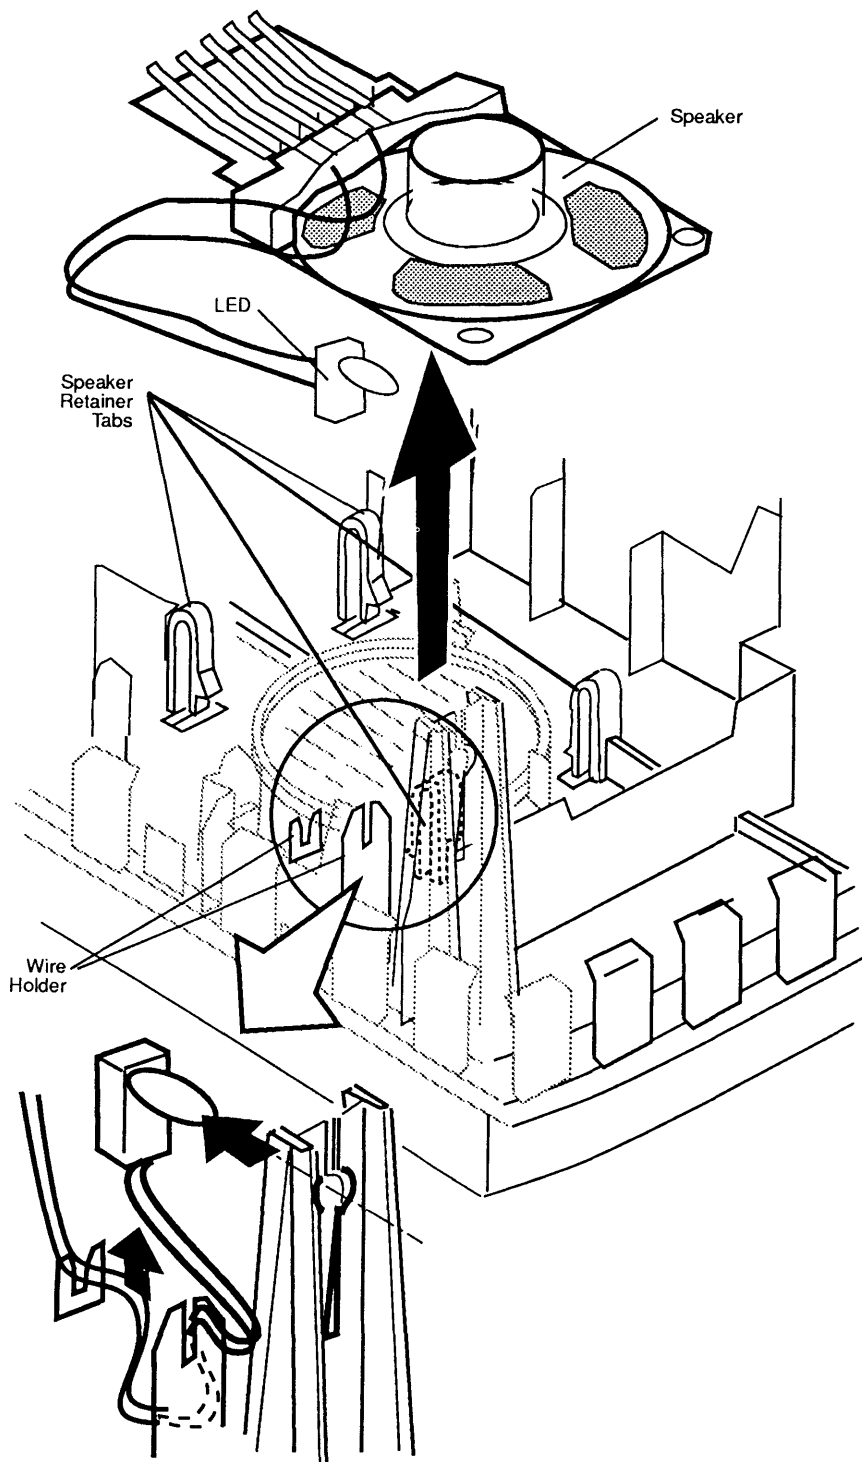

Figure 2-10 Speaker
4. Remove the diode power light on the front of the case by pushing the bulb back and pulling the diode (**Figure 2-10**) from the holder. Carefully remove the diode cables from the two cable holders.
5. Release the four clips that hold the speaker to the bottom case (**Figure 2-10**). Lift the speaker out of the bottom case.
2. Replace the diode power light in its holder, and place the diode cables in the two cable holders (**Figure 2-10**).